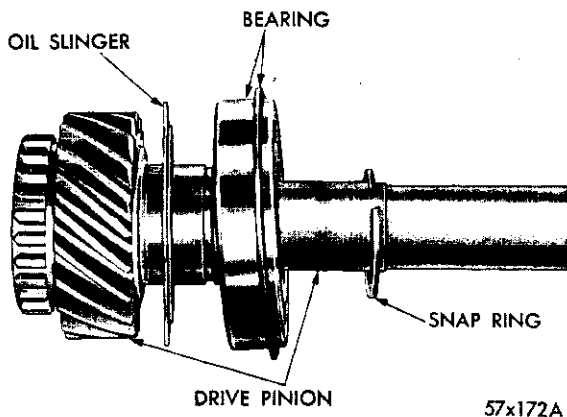

Fig. 4—Drive Pinion Assembly
(3) Remove the snap ring which locks the main drive pinion bearing on the pinion shaft, using a snap ring pliers. Carefully press the pinion shaft out of the bearing, using an arbor press. Remove the oil slinger. (Fig. 4).
(4) Remove the 15 rollers from the cavity in the end of the drive pinion gear, using a hook.